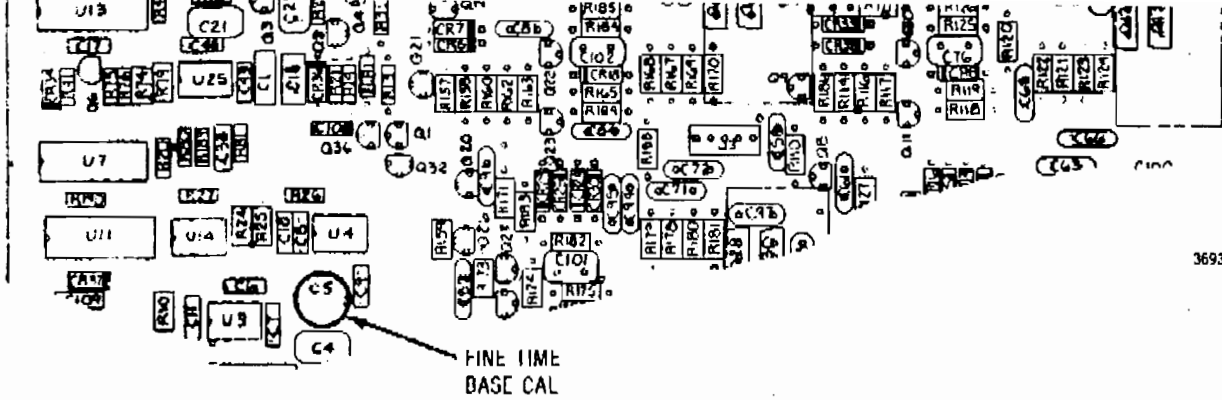

Figure 3-1. Scope Amplifier Board (A2) - Alignment Points
2. With the Test-Point Shorting Jumper, connect TP1 on the Scope Amplifier board (Figure 3-1) to chassis ground.
3. Adjust the Trace Rotation potentiometer (Figure 3-1) to make the horizontal trace on the CRT perpendicular to the graticule center line.
4. Adjust the Vertical Position potentiometer (Figure 3-1) so that the horizontal trace on the CRT passes through the graticule center point.
5. Adjust the Trace Focus potentiometer (Figure 3-1) to align the horizontal trace on the CRT behind the horizontal graticule line.
3. Adjust the Horizontal Position potentiometer (Figure 3-1) so that the vertical trace on the CRT passes through the graticule center point.
3. Connect an oscilloscope with a calibrated vertical input to TP6 on the Scope Amplifier board (Figure 3-1).
5. With 3 Vp-p at TP6, adjust the Horizontal Gain potentiometer (Figure 3-1) for a CRT horizontal trace of 6 cm. (Use the front panel controls to position the trace at a convenient place near the center of the CRT.)